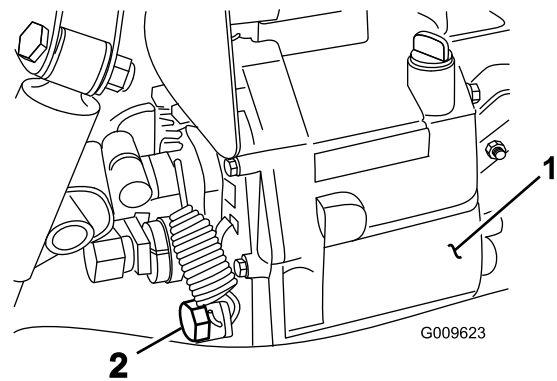

Figure 67
4. Remove the drain plug from the side of the reservoir, and let the hydraulic fluid flow into a drain pan (Figure 67).